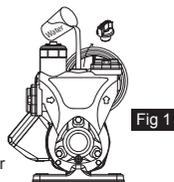

Fig 1
- Installation where there is no positive inlet pressure for the pump, please follow the procedure as shown in Fig 1.